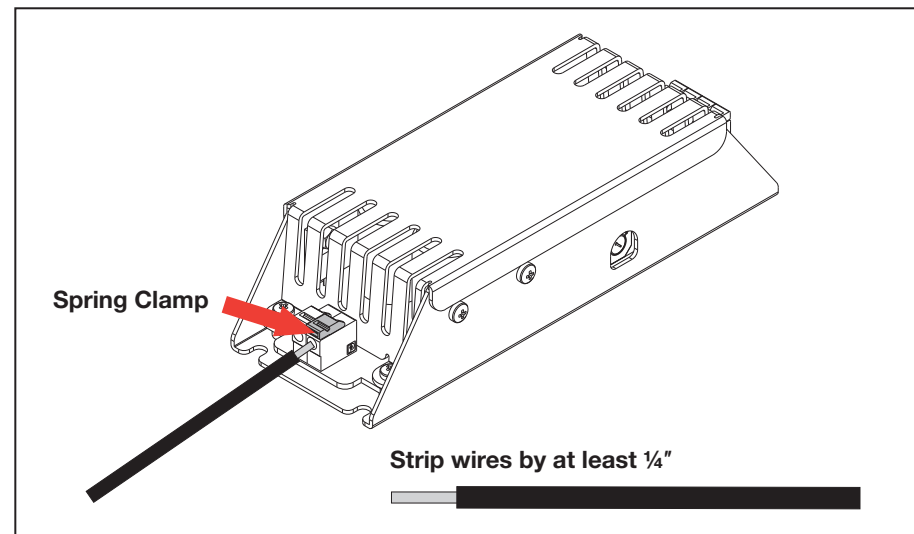
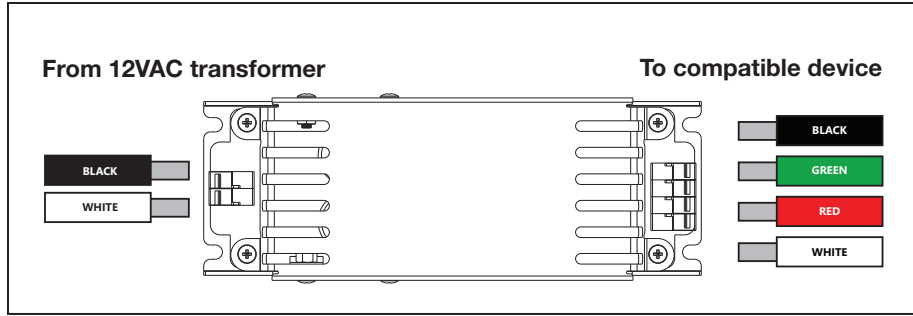

Figure 4. Wire stripping and insertion
Figure 5. RGB wiring
2. Attach each of the four or five wires to the Smart Sync LED Adapter by pushing back an orange spring clamp and inserting the correct wire below. If needed, push back the orange spring clamps to release wires. See Figure 4 for wire stripping and insertion, Figure 5 for RGB wiring, and Figure 6 for RGBW wiring.